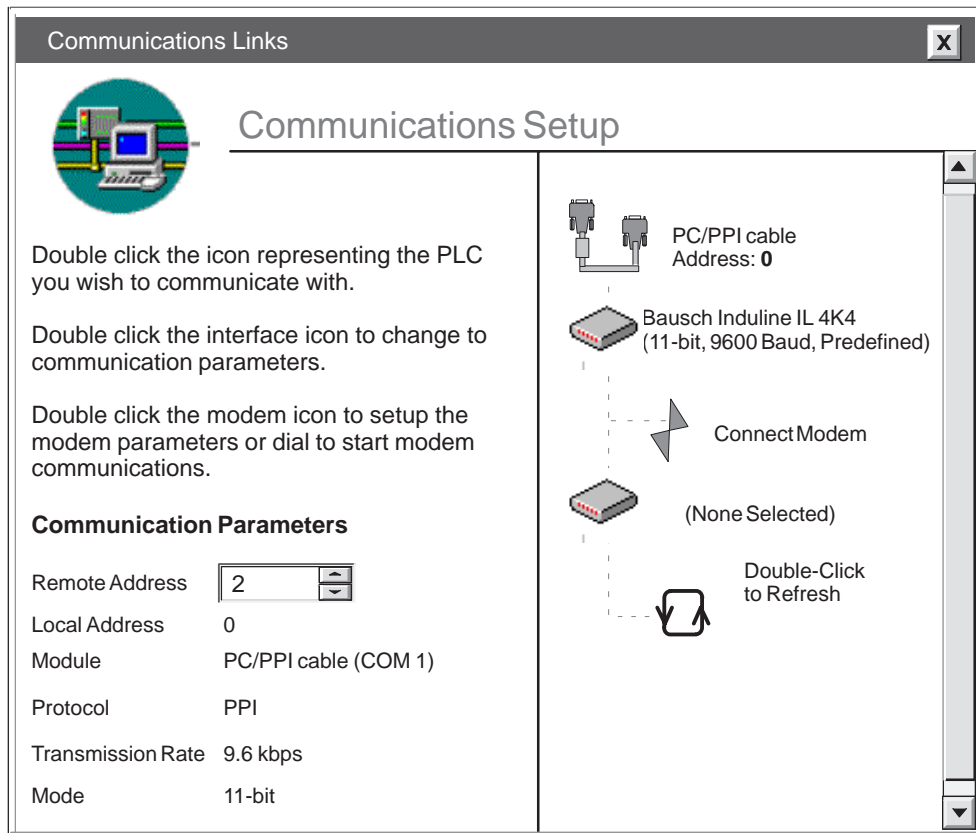
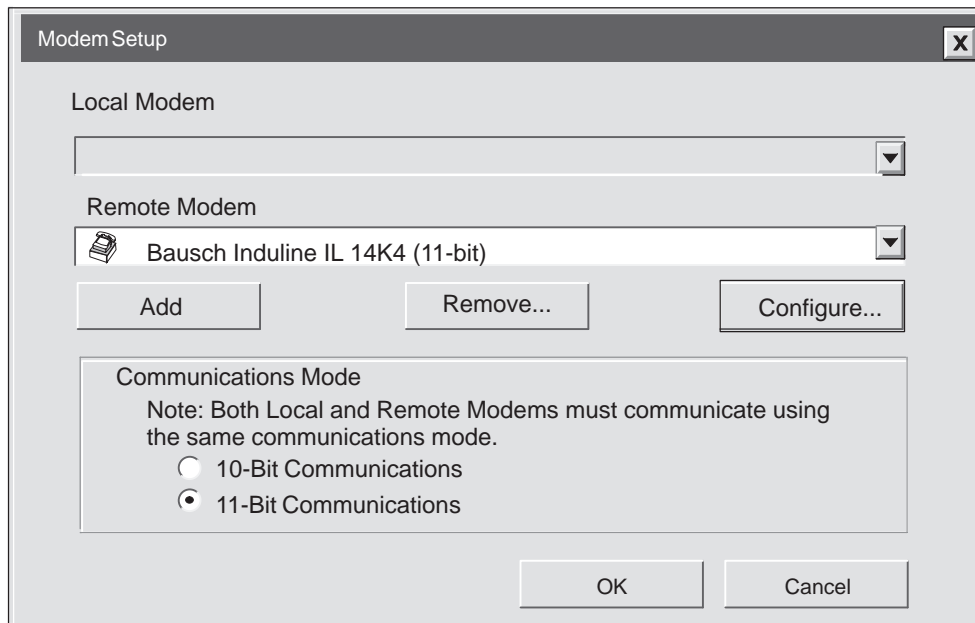

Figure 7-11 Communications Setup Dialog Box
Figure 7-14 Modem Setup Dialog Box for Remote Modem
7. Click the "OK" button. The Communications Setup dialog box appears. There are now two modem icons and a Connect Modem icon (see Figure 7-11).
1. In the Communications Setup dialog box, double-click on the second modem icon (Figure 7-11). The Modem Setup dialog box for the remote modem appears (Figure 7-14).